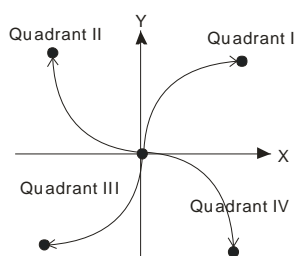
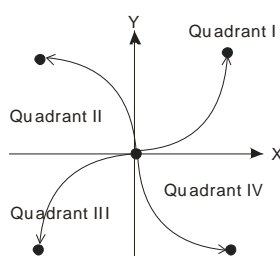

Figure 5
Figure 6
8. When the direction signal is On, the direction is positive. When the direction signal is Off, the direction is negative. When **S** is set as K0, K2, the arcs will be clockwise (see figure 5). When **S** is set as K1, K3, the arcs will be counterclockwise (see figure 6).